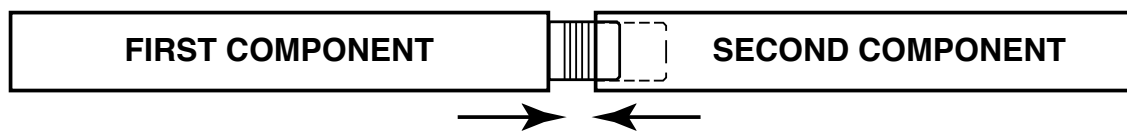

FIG 2
1. To make up a joint, thread the two components together by hand until the joint is hand tight. See **FIG 2**.